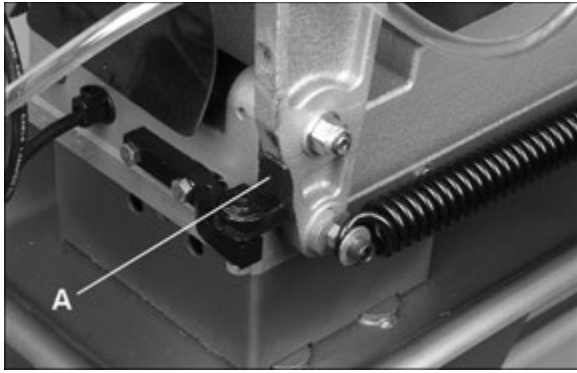

Figure 8-1: Disengaging Stop Bracket
- 2) Rotate stop bracket (A, Figure 8-1) and hold it out of the way, while lifting bow to upright position. **Pinch point – use caution!**